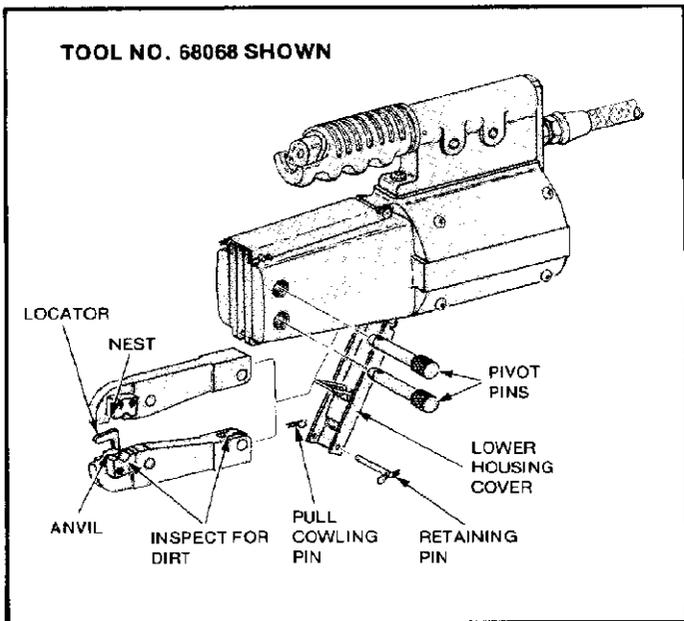

Figure 2
- (b) Inspect the die closure surfaces, bottoming surfaces and cam rollers for deposits of dirt or other foreign particles and wipe with a clean cloth. See Figure 2. Relubricate cam rollers as instructed in paragraph 4.3.
- (d) Pull one cowling pin and remove retaining pin from lower housing cover. Cover will swing open. See Figure 2.
- (e) Remove pivot pins as shown in Figure 2.
- (f) Orient jaws so that jaw with locator is on bottom as shown in Figure 2.